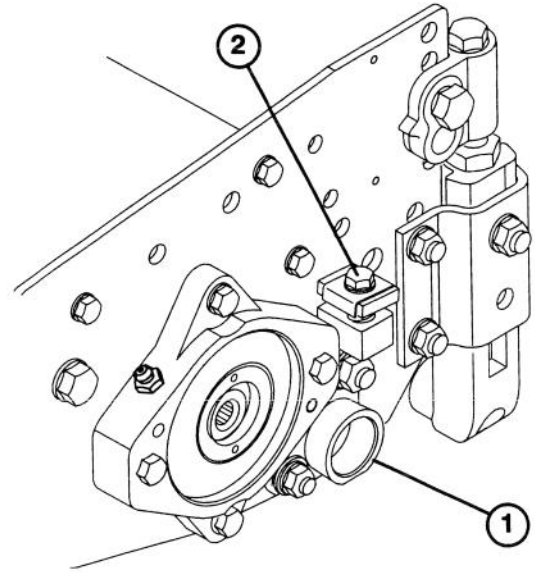

Figure 3
5. Slightly loosen (crack) the (2) locknuts securing the pivot hub to the left sideplate (Fig. 3).
6. Rotate the pivot hub adjusting screw until a slightly larger gap exists between the reel blades and the bed knife on the left end than on the right end (Fig. 3).